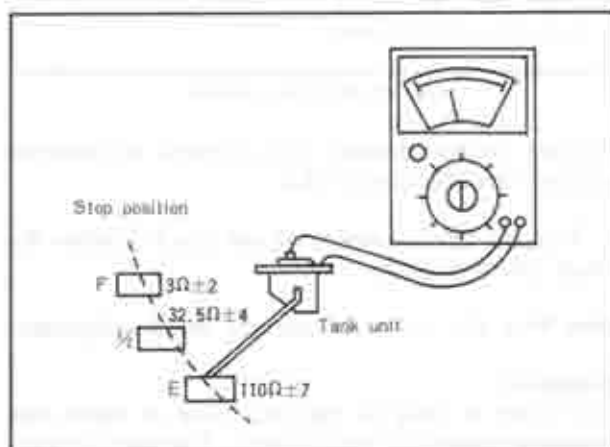

Fig. 15-9 Checking fuel gauge unit
- 1) If resistance value at E point or F point concurs with standard value indicated in Fig. 15-9 unit is satisfactory.